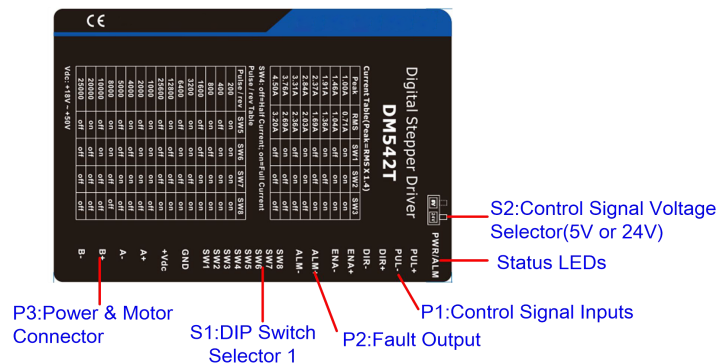

Figure 2 Connectors, DIP switches, and LED locations
PUL+	Pulse and Direction Connection: (1) Optically isolated, high level 4.5-5V or 24V, low voltage 0-0.5V (2) Maximum 200 KHz input frequency (3) The width of PUL signal is at least 2.5μs, duty cycle is recommended 50% (4) DIR signal requires advance PUL signal minimum 5 μs in single pulse mode (5) The factory setting of control signal voltage is 24V, must need to set S2 (figure 2) if it is 5V
The DM542T(V4.0) can accept differential or single-ended control signals (pulse, direction, and enable) in open-collector or PNP connection through the P1 connector (figure 2). It is recommended to add an EMI line filter between the power supply and the drive to increase noise immunity for the drive in interference environments.
- (1) ENA signal is no-connected as default;
- (2) Control signal amplitude is 24 V as default. If it is 12 V, please set the S2 (Figure 2) selector switch to 5 V first, then connect 1KΩ resistor; If it is 5V, please set the S2 to 5V.
The second 1-bit selector is located on the top (S2 in figure 2), used to configure the voltage of control signals. For the safety of optically coupled, the factory setting is 24V, [which no need to connect 2K resistors like the old drives, making it easier to use. When the voltage of the control signal is 5V, the S2 must be set to 5V, otherwise, the motor won't work.](#)